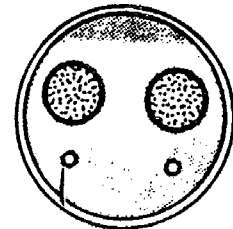

Figure 4
- e. Press adhesive sides together around collars leaving opening at the top for the funnel. (Figure 4)
- 7) Addition of service or ground wire requires adding one full layer of sealant to form a collar for each wire. (See figure 4.)